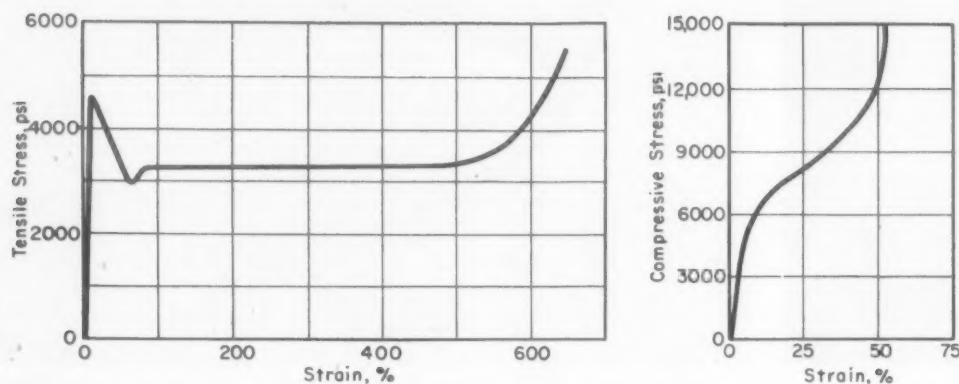

Fig 1—Tensile and compressive stress-strain curves.
**Mechanical properties** — The stress-strain curves (Fig 1) for polypropylene subjected to either tensile or compressive stresses are typical of a highly crystalline polymer having a low second order transition temperature (temperature at which amorphous polymer becomes brittle). Under an external tensile stress the material
Fig 1 also shows the remarkably high compressive strength of polypropylene. Compressive yield strength ranges from 8500 to 9900 psi, or about twice the tensile yield strength. When the material is stressed rather rapidly to 70 or 75% of the yield strength, it behaves elastically and no permanent deformation can be detected.